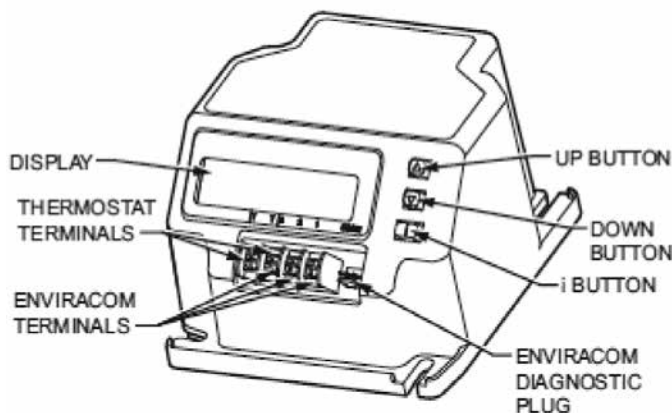

Figure 31: R7284 Oil Primary Terminals, Display and Function Buttons
- a. The Oil Primary is a microprocessor-based control. The indicator light provides diagnostic information for lockout, recycling and patented cad cell status. There is a manual reset button to exit the Lockout Mode and enter the Idle Mode (see Figure 31).
- b. Pump Priming Cycle: To facilitate purging air from the oil lines and filters. The R7284 can be placed in a purge routine by pressing and releasing the up arrow button during the Trial For Ignition. "Pump Prime" is shown on the oil primary display along with the time left on the Trial for Ignition (TFI). Pressing the up arrow button adds a minute to the TFI time for a maximum of 10 additional minutes. (press the up arrow button 10 times). Pressing the down arrow subtracts a minute from the TFI time (see Figure 31).